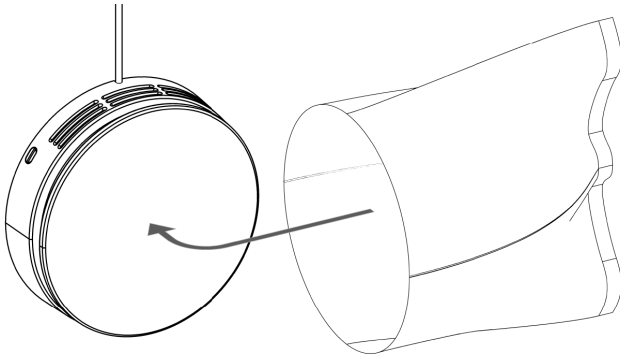
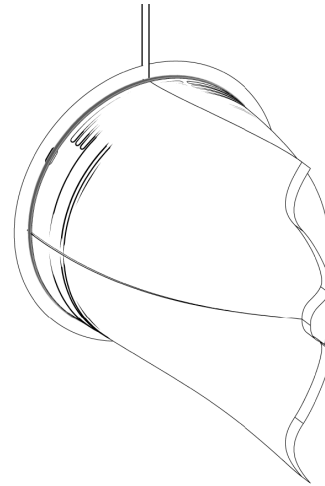

Figure 10 - The plastic bag is used to cover the unit
Figure 11 - Secure the bag with the rubber band
4. Unfold the plastic bag and place it over the unit and secure it using the enclosed rubber band, see Figure 10 and Figure 11 on the next page.